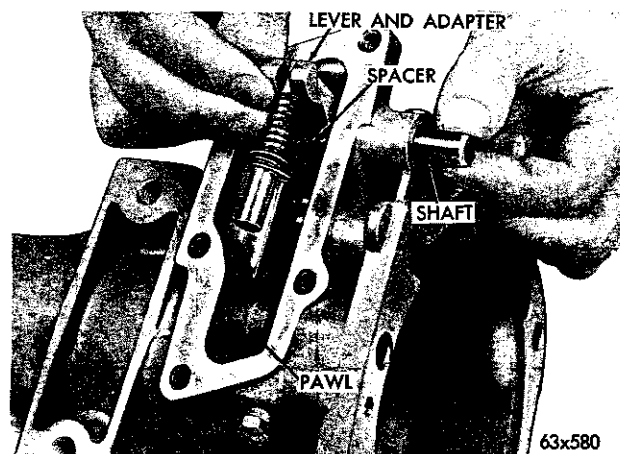

Fig. 41—Removing or Installing Parking Lock Lever and Cable Adapter
- (1) Remove the extension housing. See Paragraph 19.
- (2) To replace the governor support, refer to Paragraph 20.
- (3) Remove the parking lock cable adapter cover from the bottom of the extension housing.
- (4) Remove the plug from the extension housing, slide out the shaft to remove the parking lock lever, shim and cable adapter (Fig. 41). Replace the adapter spring if it is distorted.
(2) Position the lock lever, shim and cable adapter assembly in the extension housing and install the lever shaft (Fig. 41). The lever roller must be on top of the sprag so as to push it into engagement with the parking gear. Install and tighten the plug to 150 inch-pounds torque.
(3) Insert a small punch through the cable opening in the adapter cover and into end of adapter. Carefully lower the cover into position, feeding the adapter into cable opening in the cover. Install the cover retaining screws and tighten to 150 inch-pounds torque.
(4) Install the extension housing, transmission flange and connect the propeller shaft.
(5) Connect the parking lock cable. See Paragraphs 7 and 11.